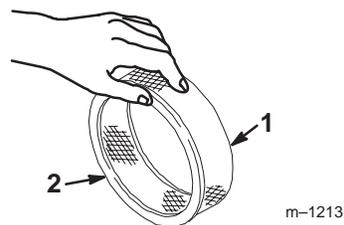

Figure 26
5. Lightly tap the paper filter on a flat surface to remove dust and dirt (Fig. 26).